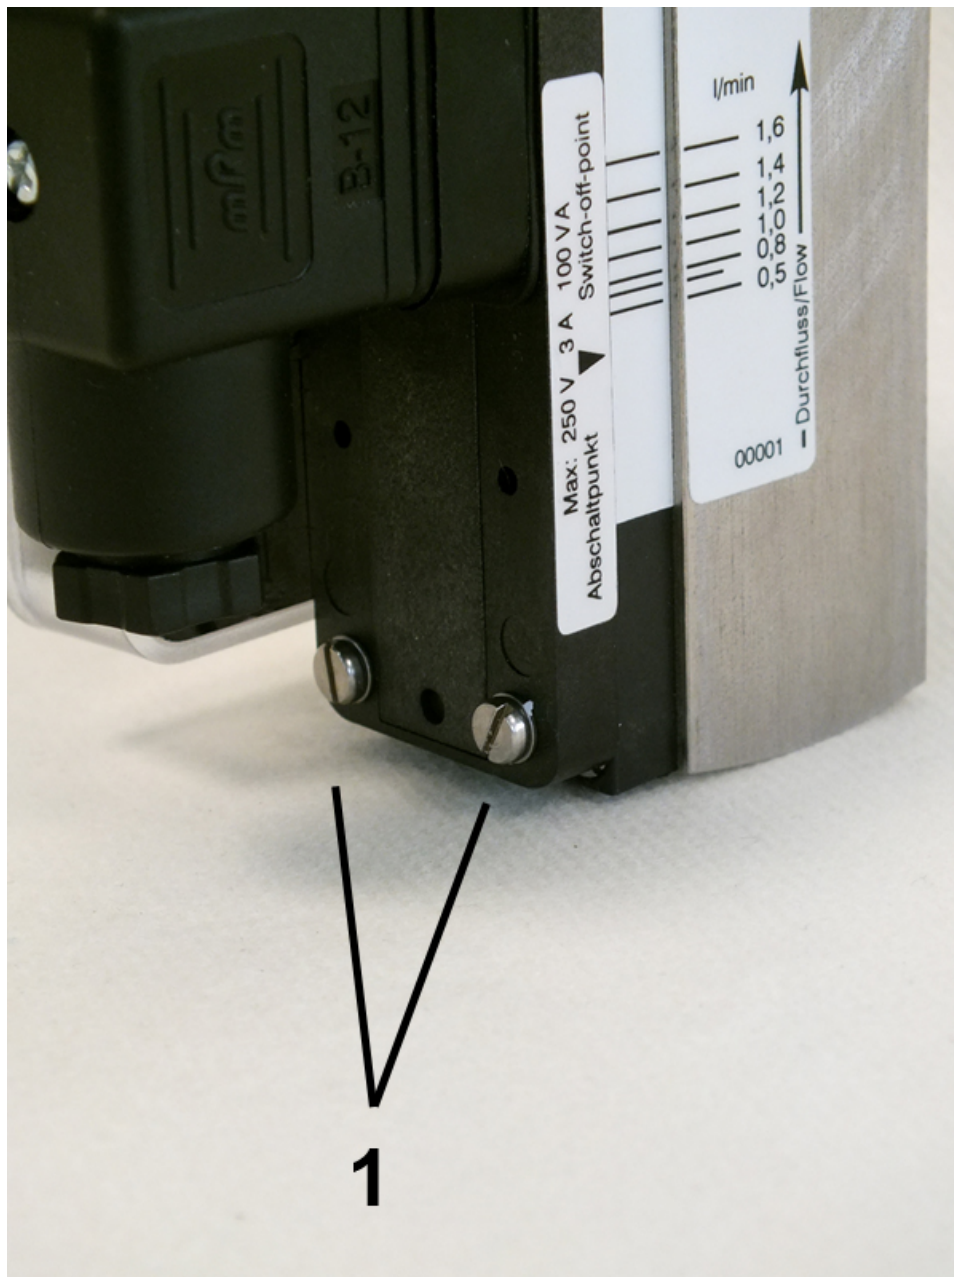

Fig. 37: Loosen set screws
1. ➤ Loosen the switch contact set screws (Fig. 37/1) using a flat-bladed screwdriver.
3. ➤ Re-tighten the switch contact housing set screws (Fig. 37/1) using a flat-bladed screwdriver. Observe the correct tightening torque.